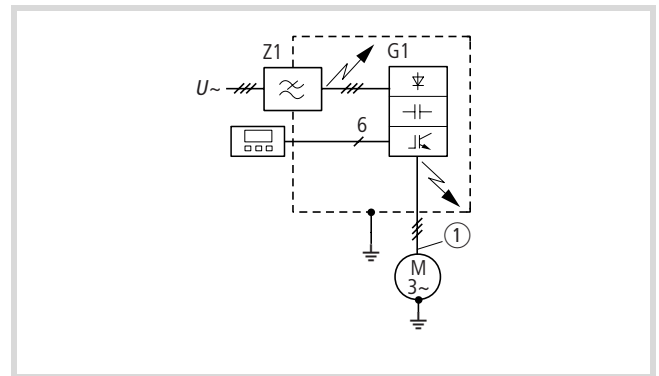

Figure 9: DF6 and radio interference filters in an insulated metal enclosure
① Screened motor cable
- Earth the metallic enclosure using a cable which is as short as possible (→ fig. 9).